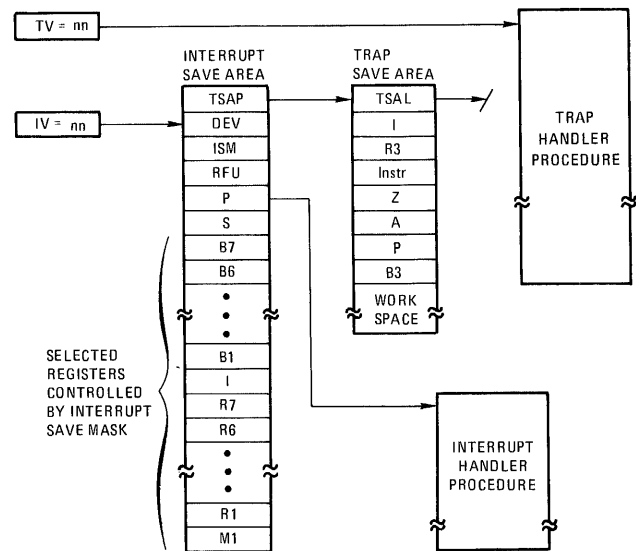

Figure 3-6. Trap Vector and Interrupt Vector Linkage
The relationship of traps and interrupts and their vector linkage are shown in Figure 3-6. The trap vector (TV) points to the trap handler procedure. The trap save areas contain the following information: